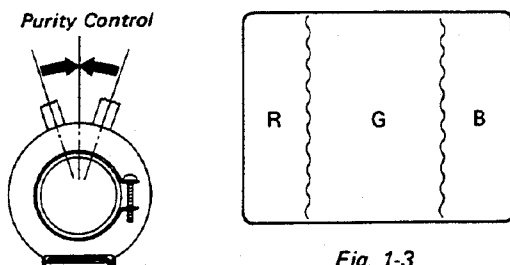

Fig. 1-3.
7. Set the screen to green only (R and B on the FRONT PANEL (L)) are in the IN position and G in the OUT position).
8. Adjust the purity magnet so that the center of screen becomes green as shown in Fig. 1-3.